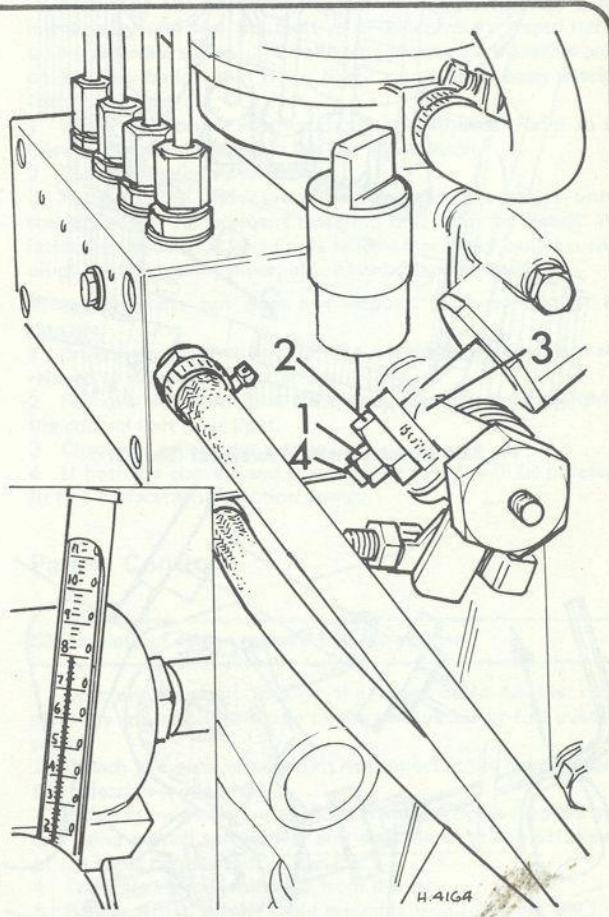

Fig 3.52 Enrichment adjustment (KF5/XN2) (Sec 46)
3 As soon as the temperature reaches 80°C (176°F) switch off the engine. Now adjust the nut (2) (Fig. 3.52) using a 17 mm spanner until it is just possible to insert a special Peugeot gauge numbered '8.0112P' between the nut and the enrichment lever (3). Retighten the locknut. This adjustment must be carried out before the temperature drops to 75°C (167°F). If the temperature drops below this figure before adjustment has been completed, allow the engine to cool down to 65°C (149°F) and warm it up again to 80°C (176°F).